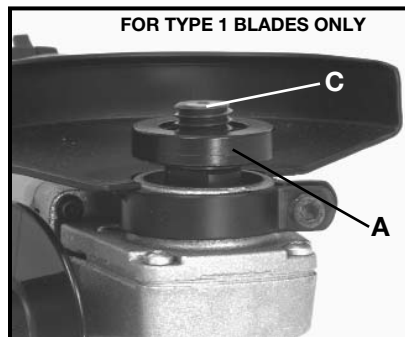

Fig. 6
**NOTE:** For **TYPE 1 Blades ONLY:** reverse the inner flange and assemble it to the spindle with the round hub facing inward, toward the machine (see Fig. 6).